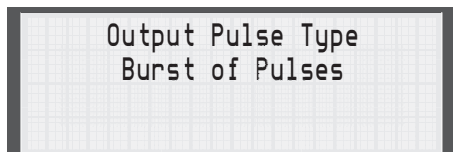

Fig. 5.15
2. Press the Down Arrow key until Burst of Pulses appears on the display (Fig. 5.15), then press the Enter key.